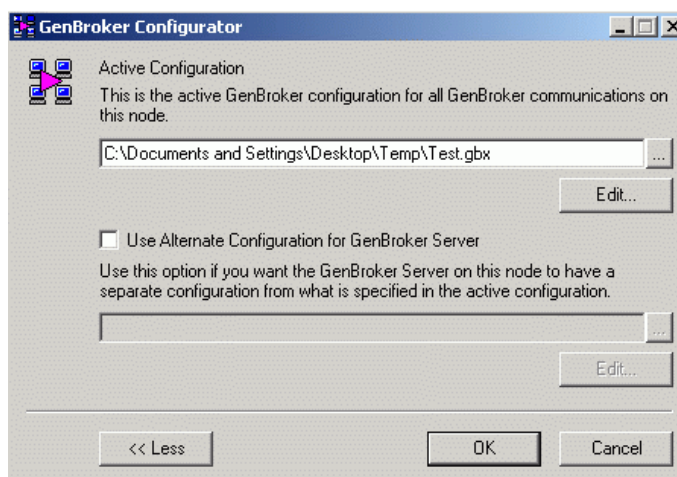

Figure 8.8. GenBroker Configurator Startup
2. This opens the GenBroker Configurator startup dialog box, as shown in **Figure 8.8**. Since GenBroker needs some information about the network (it needs to know how to communicate with particular nodes), you should specify an active GenBroker configuration file. The GenBroker configuration file is stored in an XML format in a .gbx file. The GenBroker configuration file specified as the **Active Configuration** is the default configuration used for GenBroker communications. To specify an **Active Configuration**, click the ... button to select a .gbx file. Then click the **Edit** button. To create a new configuration, click the **Edit** button.